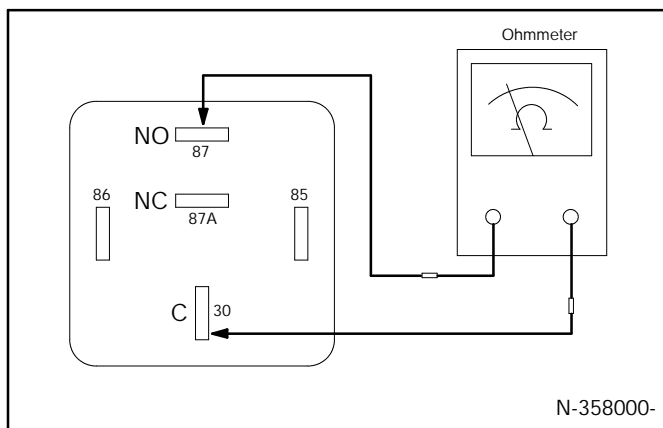

Figure 4. Common Fault Relay Test Ohmmeter Connections
Test the common fault relay operation by connecting an ohmmeter across terminals NO and C on the relay. See Figure 4.
2. Connect an ohmmeter from terminals C to NO. Observe no continuity, high ohms. See Figure 4.